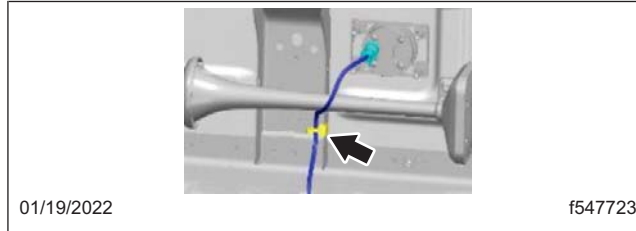

Fig. 18, Harness Routing to Battery Load Disconnect
- 11.1 For in-cab installation, route the harness from the firewall grommet down the driver's side front wall as shown in Fig. 16, and then under the cab as shown in Fig. 17, and then to the battery load disconnect switch location as shown in Fig. 18. Secure the new harness with cable ties to the existing harnesses or airlines, as needed.